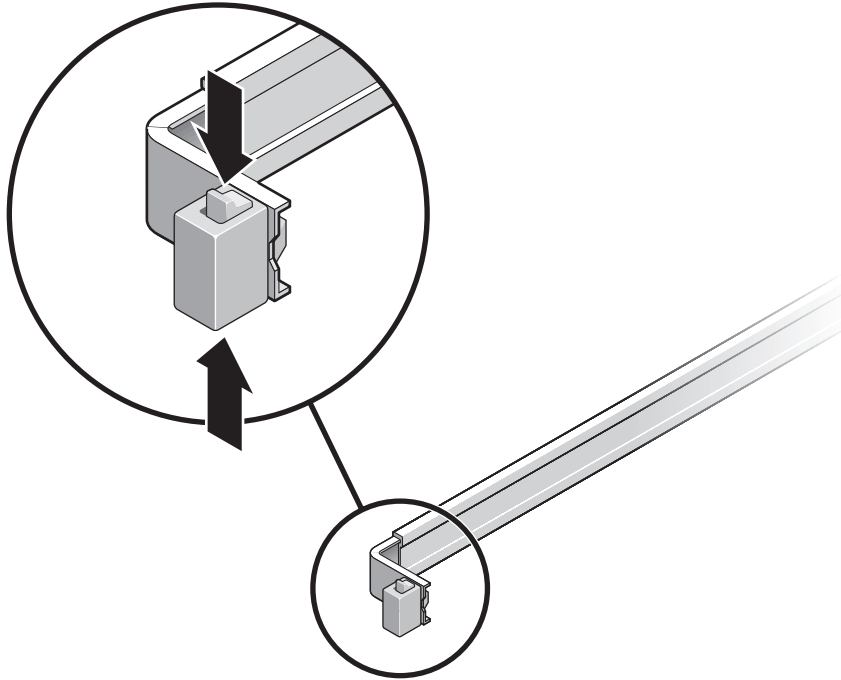

FIGURE 2-1 Unlocking the Slide Rail Assembly
- a. Simultaneously press and hold the upper and lower lock buttons of the slide rail lock (FIGURE 2-1).